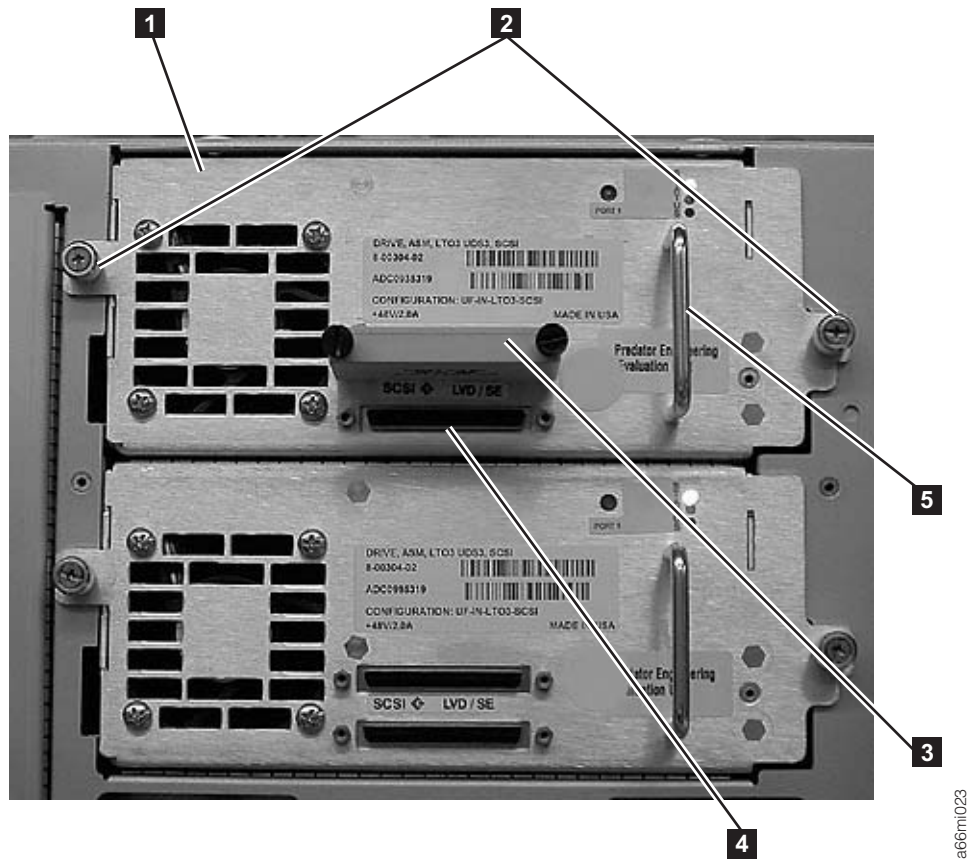

Figure 3-13. Tape Drive (detail)
- Grasp the handle (**5** in Figure 3-13) and slowly slide the drive sled into the drive slot, while supporting the drive sled from underneath.
- Tighten the two thumb screws (**2** in Figure 3-13) that hold the drive sled in place by turning them clockwise.
- For a SCSI drive sled, plug the cable and terminator into the drive sled. Tighten the thumb screws that hold the SCSI cable (**4** in Figure 3-13 shows the SCSI receptacle) and terminator (**3** in Figure 3-13) in place by turning them clockwise.